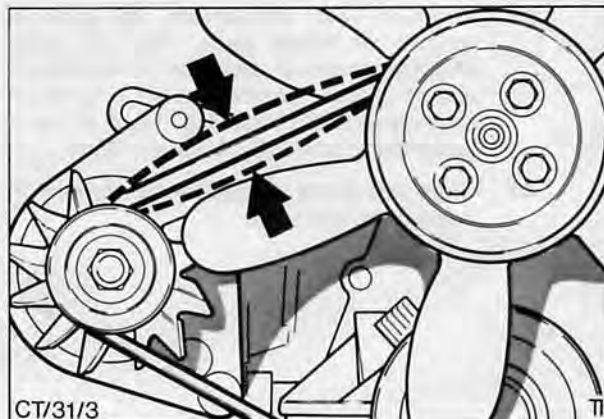

Fig. 15. Adjusting the fan belt tension
8. Fit fan belt and adjust, Fig. 15, tighten mounting bolts.